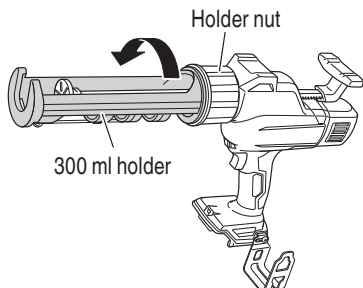

Fig. 10
- (1) Hold the holder nut and turn the holder in the direction of the arrow to remove it from the main body. (Fig. 10)